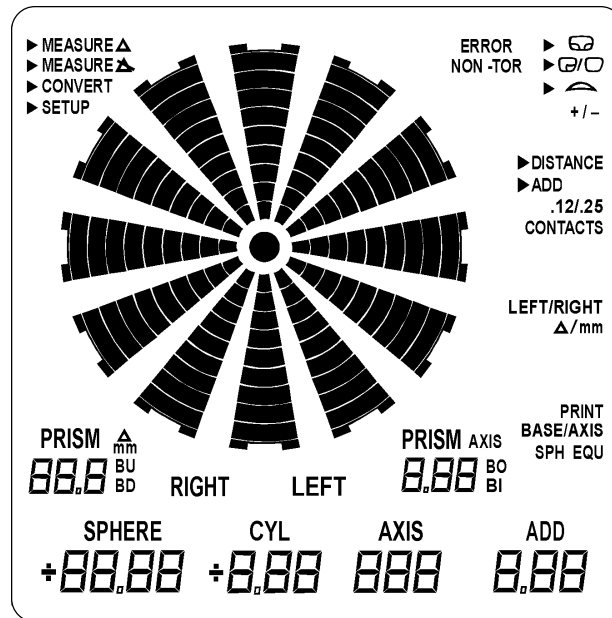

Figure 3 - LCD Screen (All Segments Displayed)
3. **Simultaneously depress the top (blue) control button and the bottom (green) control button on the display panel to verify that all the Liquid Crystal Display (LCD) segments are functional.** After verification, depress the middle (blue) control button to return the LENSCHek to the default operating mode. Refer to Figure 3 for an illustration of the LCD screen with all segments displayed.
The Display-All-Segments special function displays every segment of the LCD screen at the same time so that if a segment is not working, it will be easily identified (refer to Figure 3).